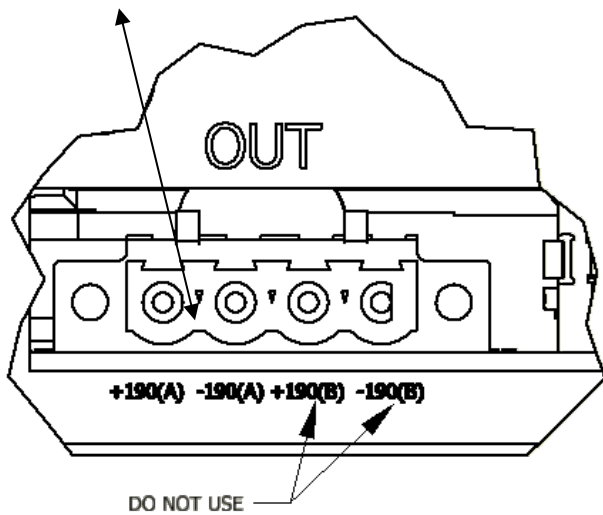

Figure 3
Do not use outputs for +190(B) and -190(B) (Fig. 3).